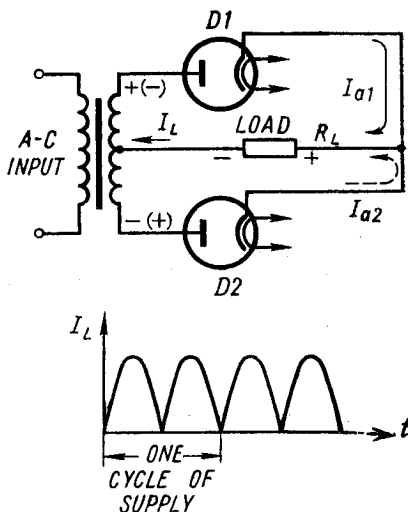

Fig. 21. Full-wave rectifier and output waveform
1. By employing two diode half-wave rectifiers in a so-called full-wave rectifier circuit, plate current can be made to flow during the full cycle of the ac supply voltage. As evident from Fig. 21, the two diodes alternately supply rectified current to the load during both halves of the ac input voltage, and always in the same direction.
2. Note in Fig. 21 that the cathodes of the two rectifier
4. When an ac voltage is applied to the primary winding of the transformer, a voltage of the same shape, but enlarged in amplitude by the step-up ratio, appears across the secondary winding, as illustrated in Fig. 21. This secondary voltage is split in half, one-half appearing across diode 1 in series with the load R_L , the other half appearing across diode 2 in series with the load.
6. The direction of this current, indicated by the solid arrows in Fig. 21, is such as to make the cathode-end of the load positive. The current I_{a1} develops a voltage across the load, which reproduces the first half-cycle of the ac input voltage. During this first ac half-cycle the bottom of the trans-
9. As indicated by the solid arrows, the current flows through the load in the same direction as the previous half-cycle so that rectification is obtained. The current I_{a2} flowing across the load develops an output voltage, which reproduces the second half-cycle of the ac input voltage. Thus, two positive half-cycles appear across the load during one ac cycle of the supply voltage, as is illustrated by the output waveform in Fig. 21.
10. During successive half-cycles of the ac input voltage, diodes 1 and 2 will continue to conduct alternately, each permitting current to flow during one half-cycle whenever its plate is positive with respect to the cathode. The resulting output current is a series of unidirectional pulses, as shown in Fig. 21. Since there are two output pulses for each complete cycle of the ac input voltage, the output frequency is twice that of the ac supply frequency.
8. One advantage of the bridge rectifier over the conventional full-wave rectifier is that the bridge circuit produces a voltage output nearly twice that of the conventional circuit for a given power transformer. This is so because in the bridge circuit the full voltage of the transformer secondary winding is applied across two conducting diodes during each half-cycle, in contrast to the circuit of Fig. 21 where the secondary voltage is split in two.